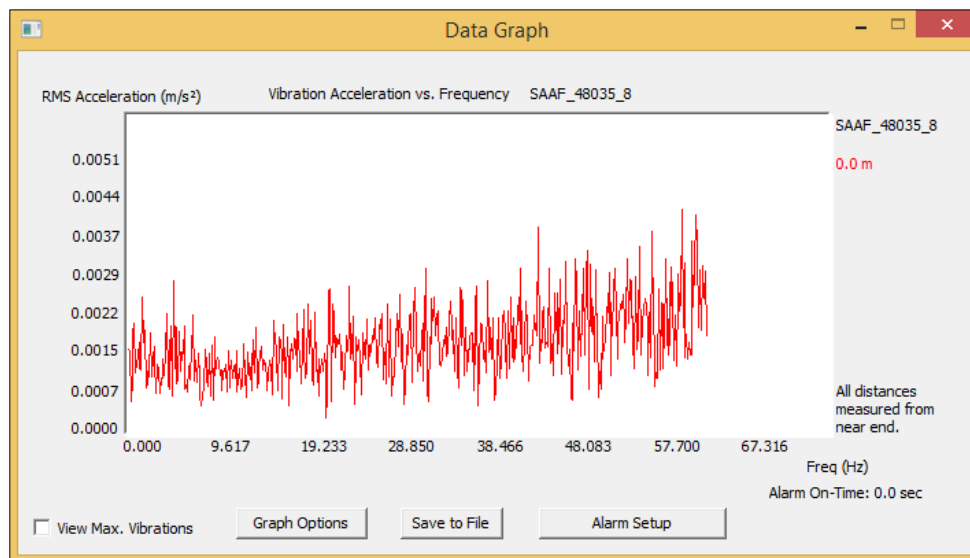

Figure 6.100: Graph of acceleration vs. frequency for the SAA joint closest to the near end of the SAA.
6. After the FFT buffer has filled up, an FFT vibration plot of acceleration (m/s^2) vs. frequency will appear in a window similar to that shown in **Figure 6.100**.